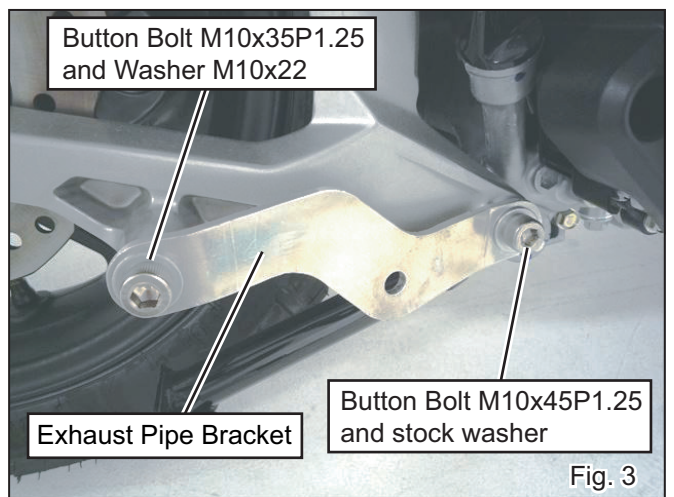

Fig. 3
- 4) Mount Exhaust Pipe Bracket with Cap Bolt M10x35 P1.25, Cap Bolt M10x45 P1.25, washer M10x22 and stock washer. (See Fig. 3)